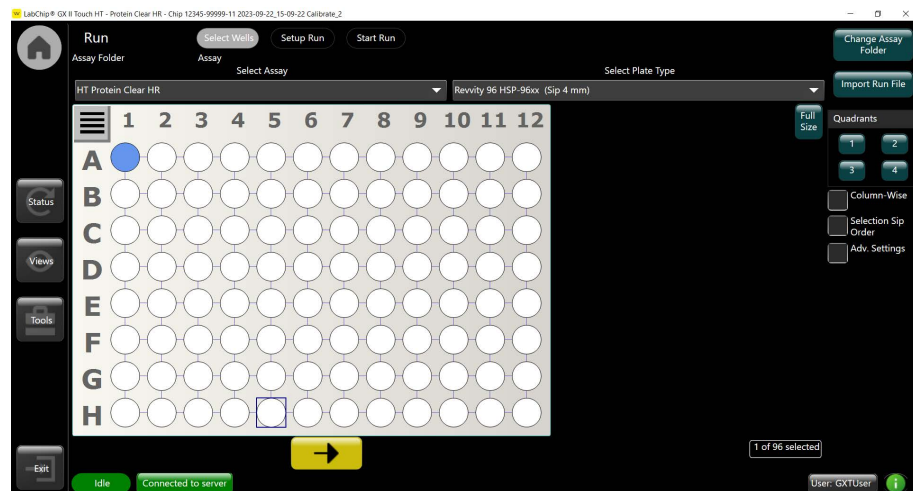

Figure 9. Selecting wells.
- 4 Select the appropriate plate type, well pattern, and whether to read wells in columns or rows (Figure 9). Select number of times each well is sampled under *Adv. Settings*. Touch the green arrow.